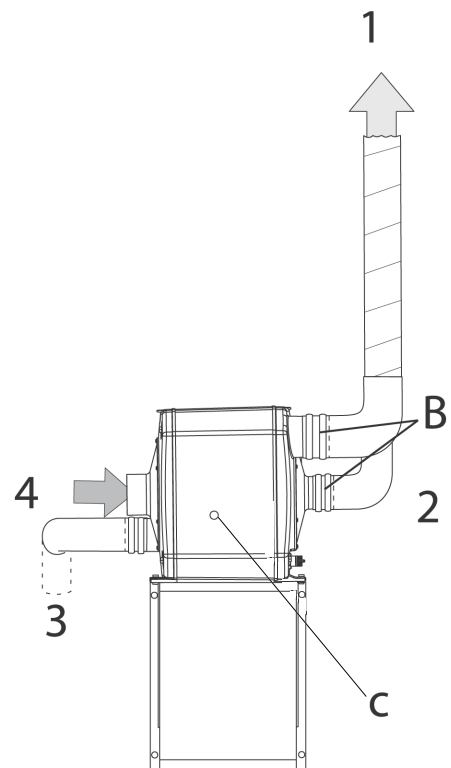

Figure 4.5 Required duct works, front view
5. Connect the dehumidifier to the mains power and check that it is operating. The rotation of the rotor can be viewed by removing the plastic plug on the side of the unit, see *Figure 4.5*.